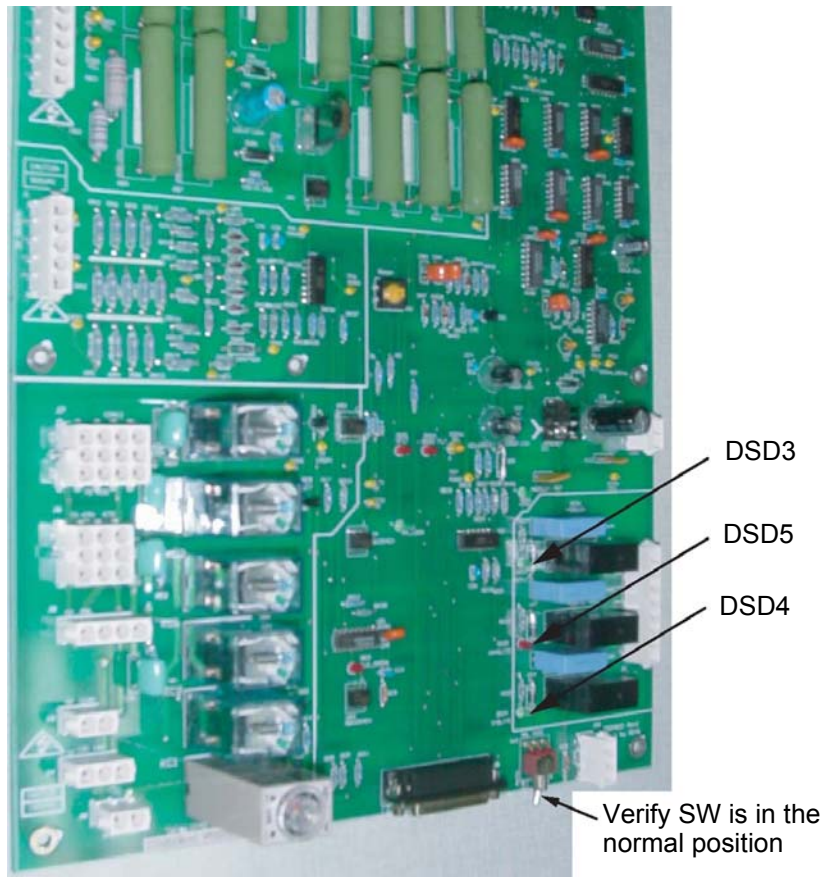

Figure 4-18 NGPDU Control Board
- 2.) When the system is powered, three lamps should be "ON". (Refer to Figure 4-18.)